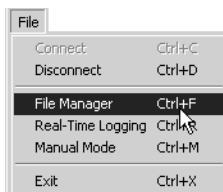

Figura 4-3. File ▶ File Manager
- Haga clic en **File ▶ File Manager** (Figura 4-3).